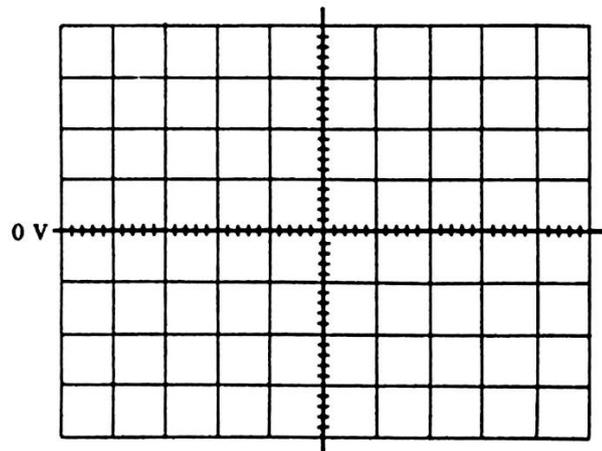

Figure 3.4b
- Record the displayed VTC on Fig. 3.4b.